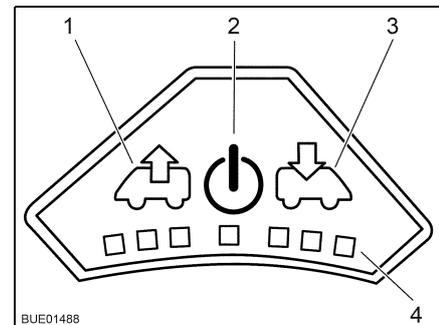

Fig. 57 Control panel for fan
- Press the On/Off button (Fig. 57,2). The fan runs in comfort mode (venting at slowest fan speed).
- To increase the fan speed: Press the Vent button (Fig. 57,1). The fan speed in the venting direction increases by one level. LEDs (Fig. 57,4) show the operating levels.
- To lower the fan speed: Press the Aerate button (Fig. 57,3). The fan speed decreases by one level.
- To increase the fan speed: Press the Aerate button (Fig. 57,3). The fan speed in the aerating direction increases by one step. LEDs (Fig. 57,4) show the operating levels.
- To lower the fan speed: Press the Vent button (Fig. 57,1). The fan speed decreases by one level.
- Press the On/Off button (Fig. 57,2). The fan stops, the LEDs go out.